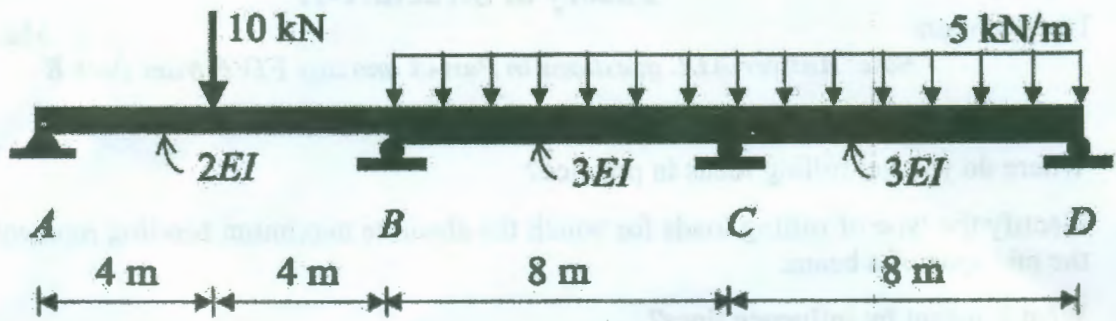

Fig. 2
13. Analyse the beam shown in Fig.2 by using flexibility method draw bending moment diagram. [10]